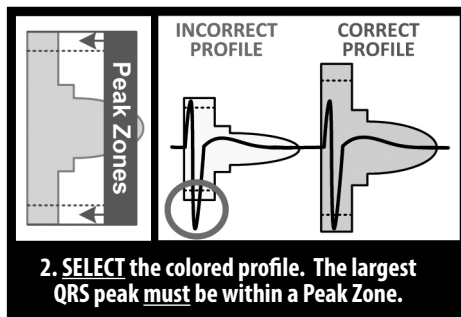

Figure 3: *Selecting the colored profile*
1. **Select** the colored profile from the Patient Screening Tool that best matches the amplitude of the QRS (*Figure 3*). For biphasic signals, the larger peak should be used to determine the appropriate colored profile. The QRS peak must fall within the window bounded by the dotted line and the peak of the colored profile.